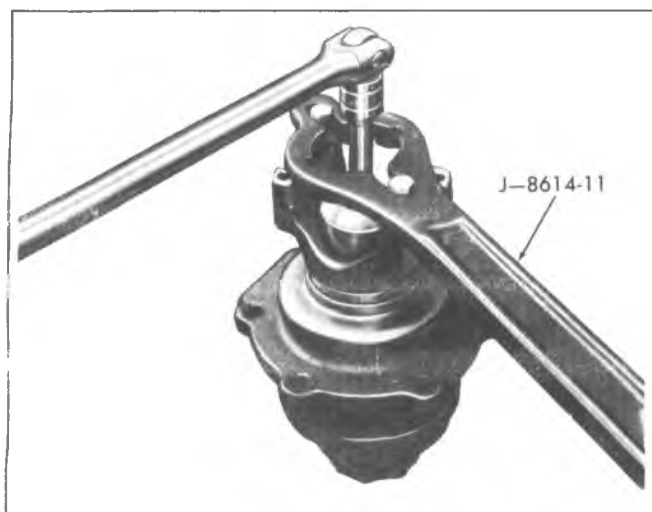

Fig. 8E-Removing Pinion Nut
2. Install Holder J-8614-11 on flange by using two bolts with flat washers, as shown in figure 8E. Position J-8614-11 on flange so that the four notches are toward the flange.
9. Clamp the pinion flange into a vise. Install J-8614-11 as in figure 8E. Tighten the nut to achieve proper preload.